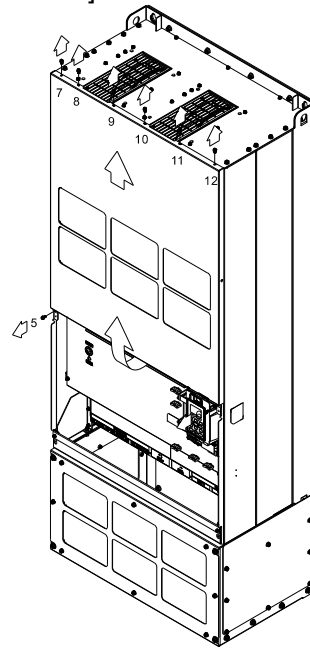

Figure 2
2. Loosen the screw 5-12 and remove the top cover (figure 2). Screw torque: 24-26 kg-cm / [20.8-22.6 lb-in] / [2.4-2.5 Nm]